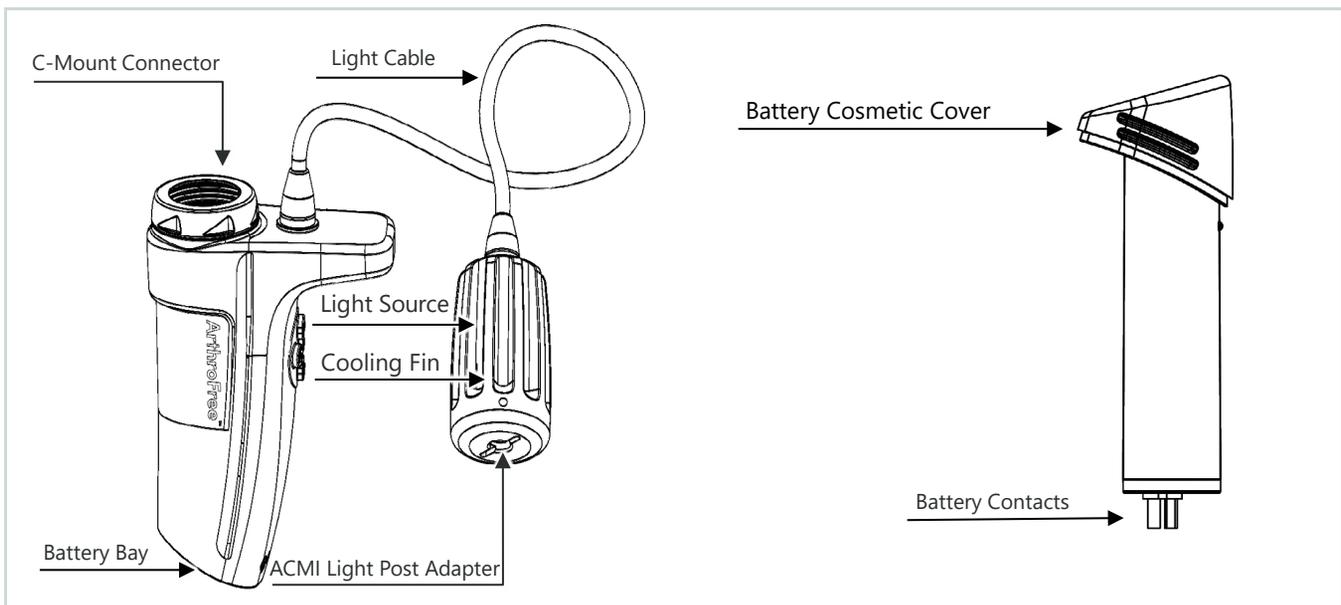

FIGURE 11. Proper Orientation of the Camera Head and Battery for Decontamination and Cleaning
4. While holding the Camera Head with the battery bay facing down (see FIGURE 11), use a soft bristle brush, non-linting cloth, or suitable alternative soaked in an enzymatic cleaner to gently scrub the exterior of the Camera Head. Pay close attention to threaded mating surfaces, the heat dissipation fins on the light source, or any areas where soil may have accumulated. If necessary, gently flush difficult-to-access or heavily soiled areas with additional enzymatic cleaner.
6. Decontaminate one Battery at a time. With the battery contacts facing down (see FIGURE 11), use a soft bristle brush, non-linting cloth, or suitable alternative soaked in an enzymatic cleaner to gently scrub the exterior of each Battery. Pay close attention to the Battery end cap or any areas where soil may have accumulated. If necessary, gently flush difficult-to-access or heavily soiled areas with additional enzymatic cleaner. Repeat until all Batteries have been decontaminated.